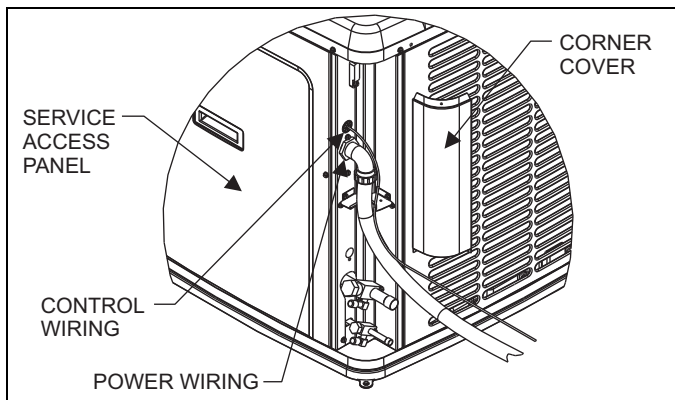

FIGURE 5: Typical Field Wiring
2. Remove the screws at the bottom of the corner cover. Slide corner cover down and remove from unit. See Figure 5.